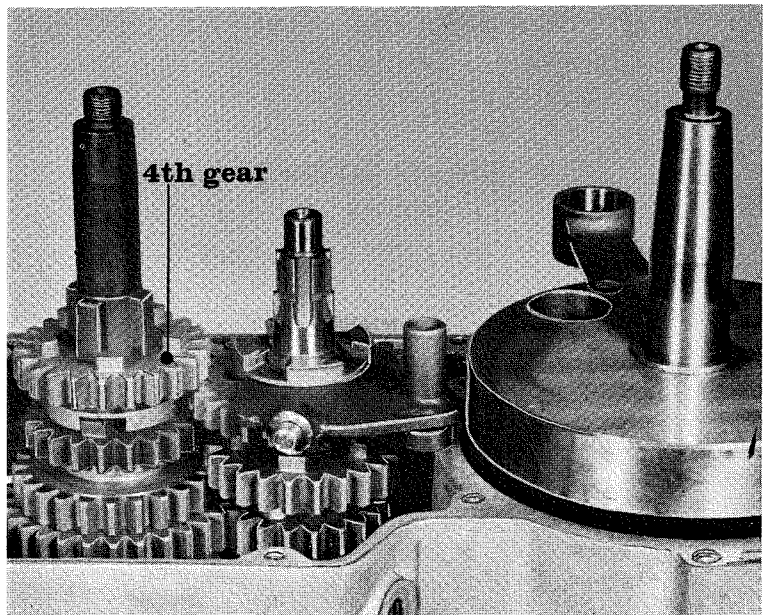

Fig. 10
10. Fit the 4th gear pinion onto the sprocketshaft. See Fig. 10.